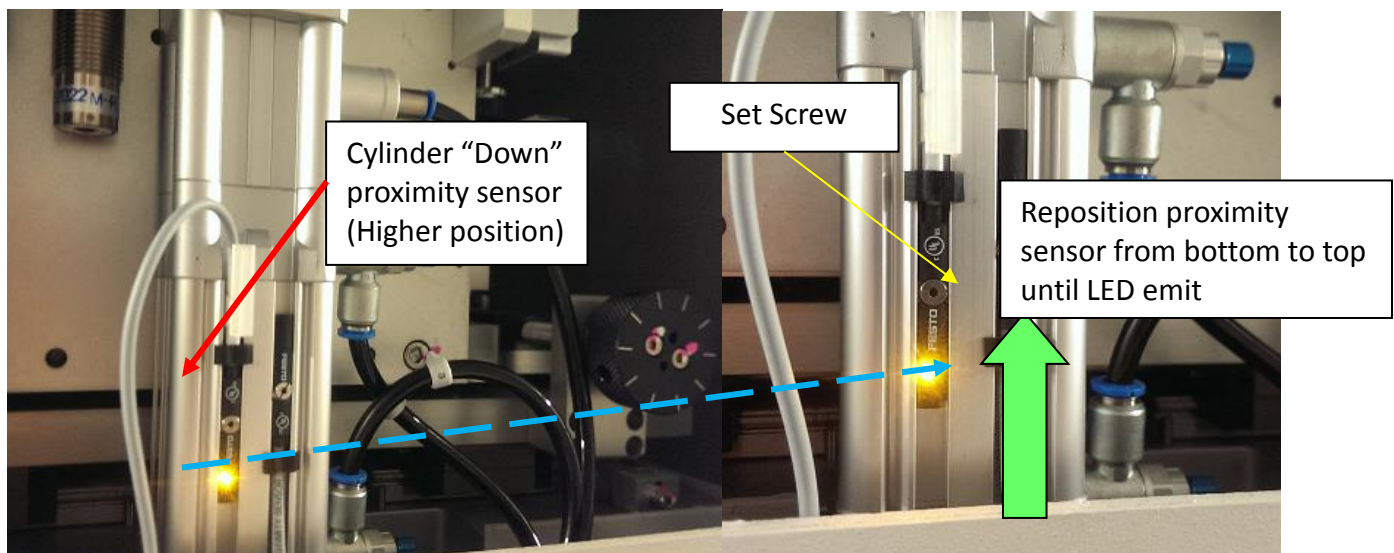

Figure 29 Proximity sensor adjustment
36. With tube cylinder up position, check for proximity sensor signal. The higher proximity sensor should emit Amber LED with tube up position as Figure 29. If the sensor **NOT** emitted, loosen the set screw and reposition the sensor from bottom to top until LED is turn On (Amber indicate).